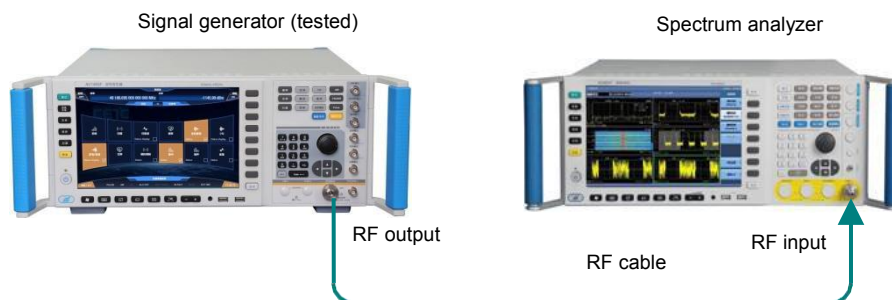

Fig.7.4 Harmonic Test
Step 2. Connect the device as shown in Fig.7.4.
The test block diagram is the same as Fig.7.4.